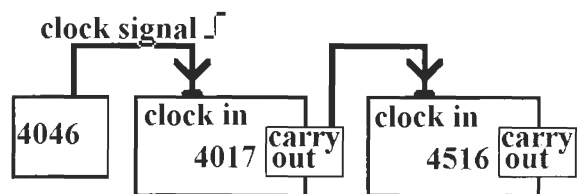

Figure L41-10
2. This is even better. The 4046 clocks to the 4516. Connect the carryout of the 4516 directly to the clock input of the 4017. The setup is shown in Figure L41-10. What is happening?